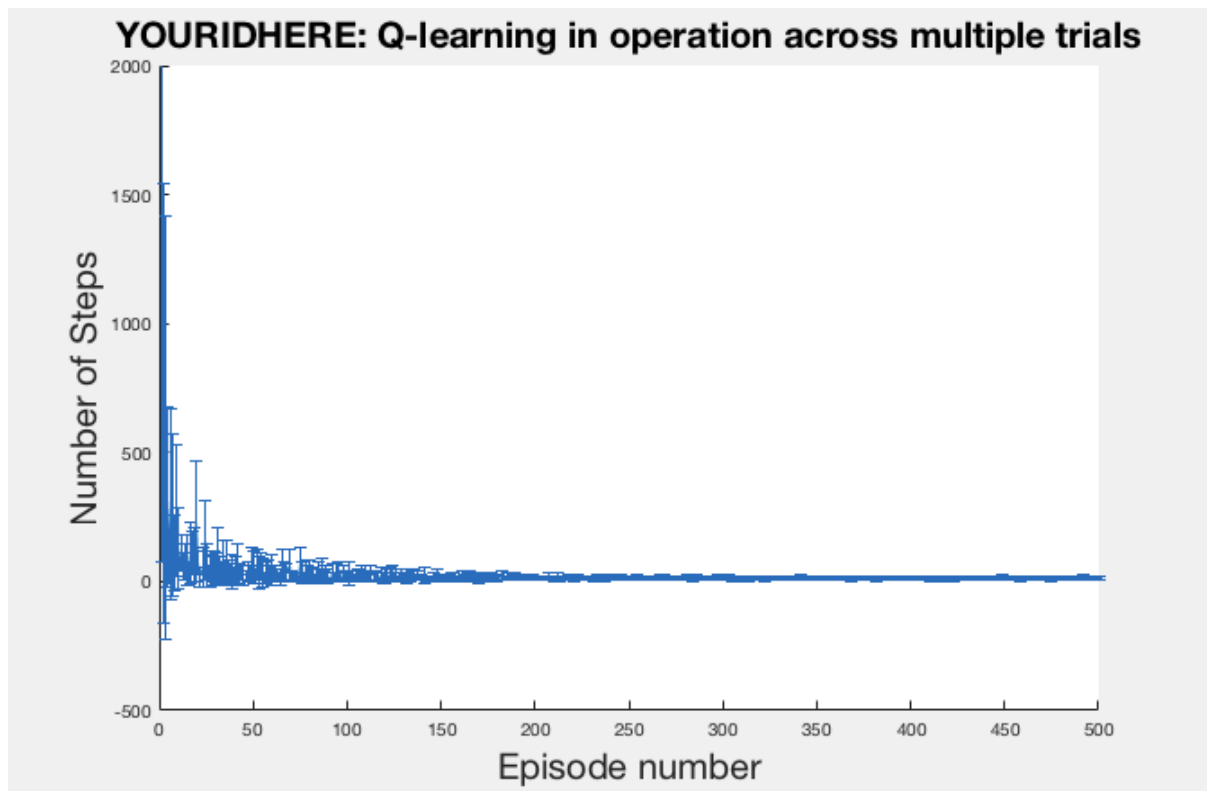

Figure 8. Mean and SD of steps plotted against episode.
- You should end up with a plot like the one shown in Fig.8.